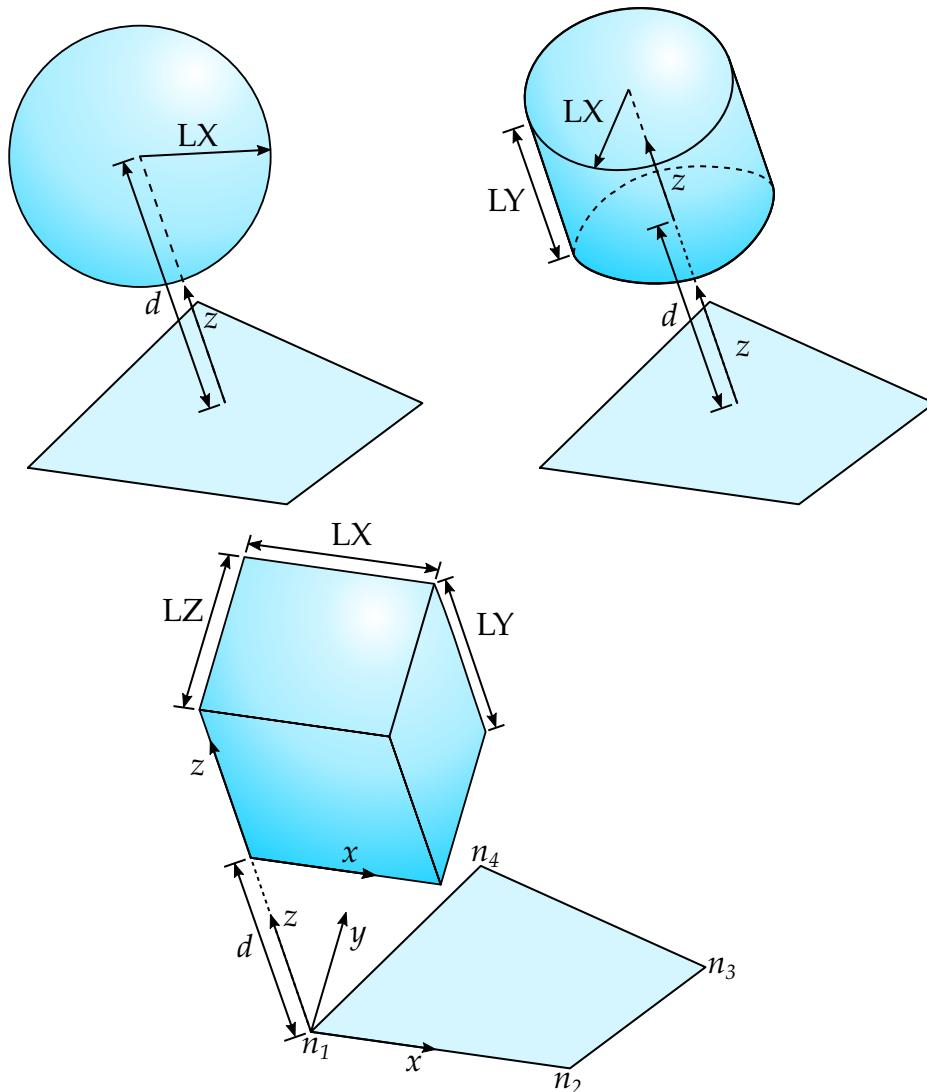

Figure 16-1. Sensor shapes
1. **Sensor Shape.** The sensor can be three different shapes, a sphere, cylinder, or rectangle, depending on the length fields defined (LX, LY, and LZ). See Figure 16-1.
2. **OFFSET.** Each segment has a sensor. The distance between the segment and the sensor is defined by OFFSET (d in Figure 16-1) in the normal direction of the segment. This distance is constant, that is, the sensor moves along with the segment.